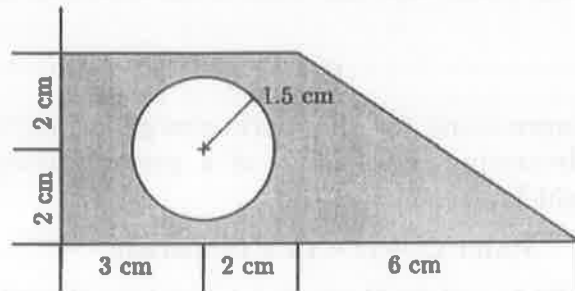

Figure 13 (a)
13. (a) Determine the centroid and moment of inertia of a composite area as shown in figure.13 (a).